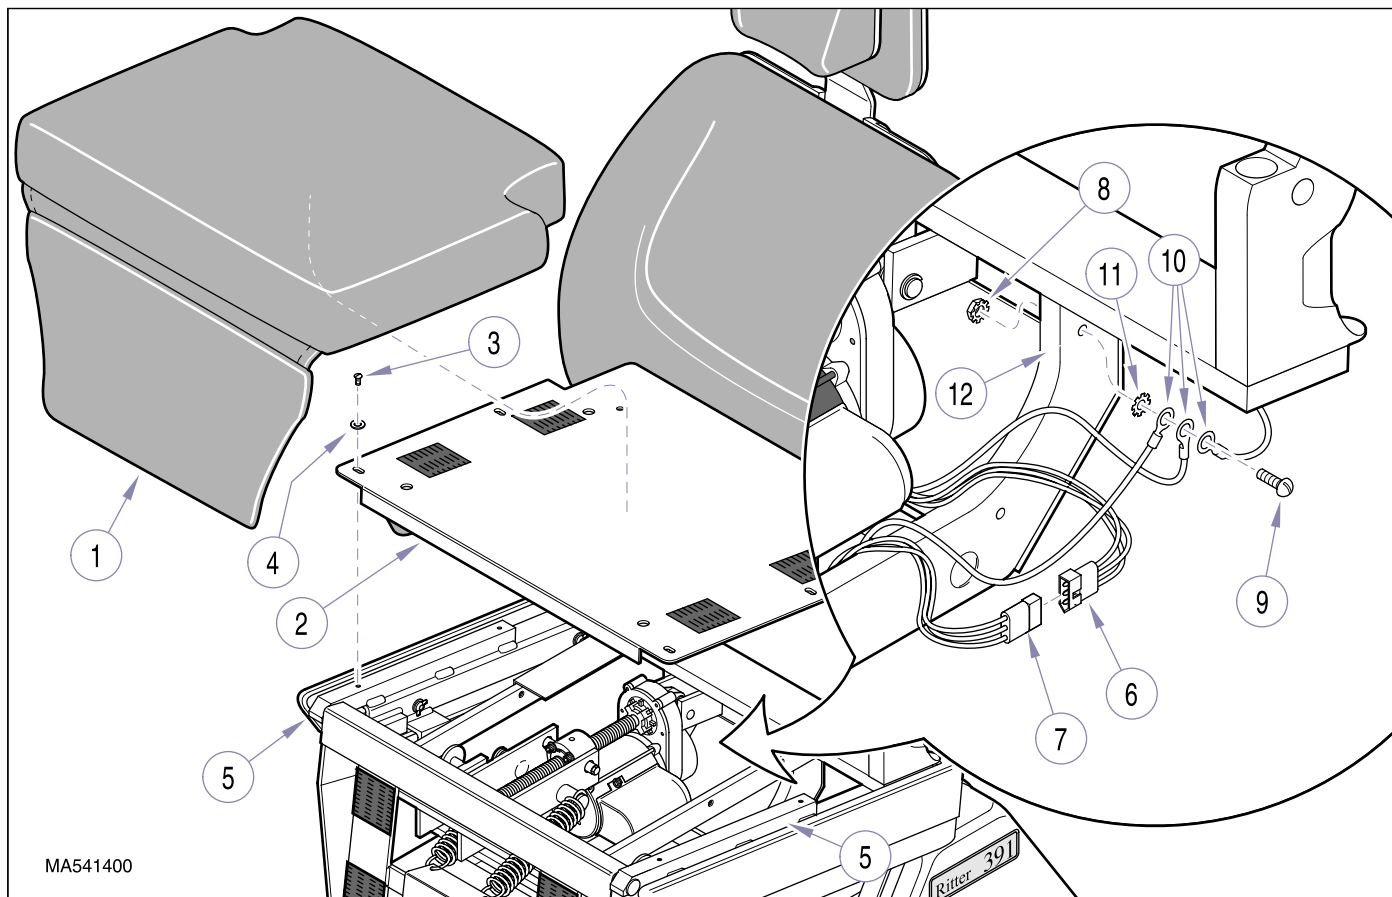
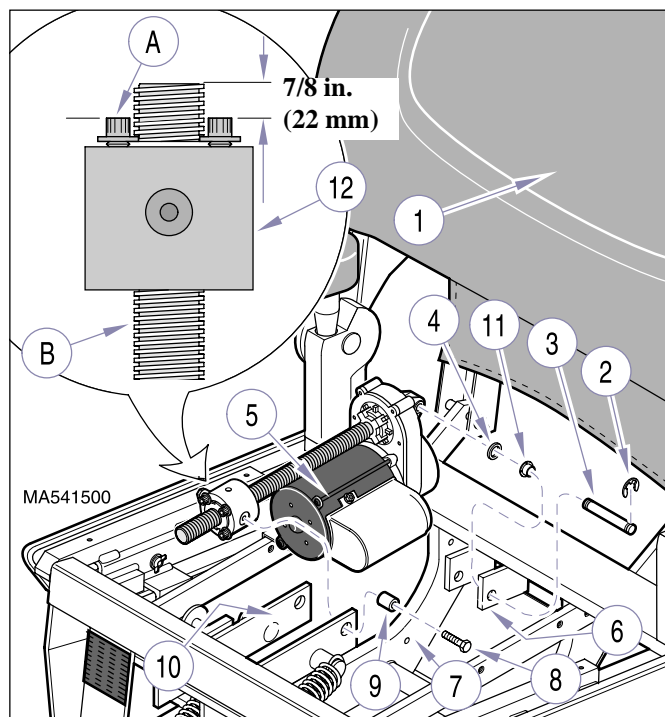

Figure 4-10. Back Motor Wire Harness Disconnection / Connection
Figure 4-11. Back Motor Removal / Installation
- (1) Unplug chair power cord from wall outlet receptacle.
- (2) Separate velcro of seat cushion (1, Figure 4-10) from velcro of seatrest plate (2) and remove seat cushion from chair.
- (3) Remove four screws (3), washers (4), and seatrest plate (2) from L.H. & R.H. support weldments (5).
- (6) While supporting **the top** of back section (1, Figure 4-11) to prevent it from lowering, remove two retaining rings (2), top motor pin (3), washer (4), and separate back motor (5) from clevis (6).
- (1) If removed, install two bushings (11, Figure 4-11); one in each arm of clevis (6).
- (2) Temporarily connect motor wire harness (6, Figure 4-10) to wire harness (7).
- (3) Plug chair power cord into wall outlet receptacle.
- (4) Run BACK DOWN function until back motor is stopped by motor's internal limit switch.
- (5) Unplug chair power cord from wall outlet receptacle.
- (6) Manually adjust trunnion block (12, Figure 4-11) until end of motor shaft (B) extends 7/8 in. (22 mm) past four screws (A) on trunnion block.
- (7) Position back motor (5) in chair; then secure trunnion block (12) in clevis (10) with two trunnion bushings (9) and screws (8).
- (8) Lift upward on back section (1) as necessary to align support bracket of back motor with clevis (6). Then secure back motor in place with washer (4), top motor pin (3), and two retaining rings (2).
- (9) If disconnected, connect motor wire harness (6, Figure 4-10) to wire harness (7).
- (10) Connect three ground wires (10) to platform weldment (12) with lockwasher (11), screw (9), and locknut (8).
- (11) Run the Back Up function all the way up while observing to make sure the external Back Up limit switch trips before the internal limit switch. If necessary, refer to Base Up limit switch adjustment, para 4.9.
- (12) Install seatrest plate (2) on L.H. & R.H. support weldments (5) and secure with four washers (4) and screws (3).
- (13) Install seat cushion (1) on seatrest plate (2), making sure to align velcro of both parts.